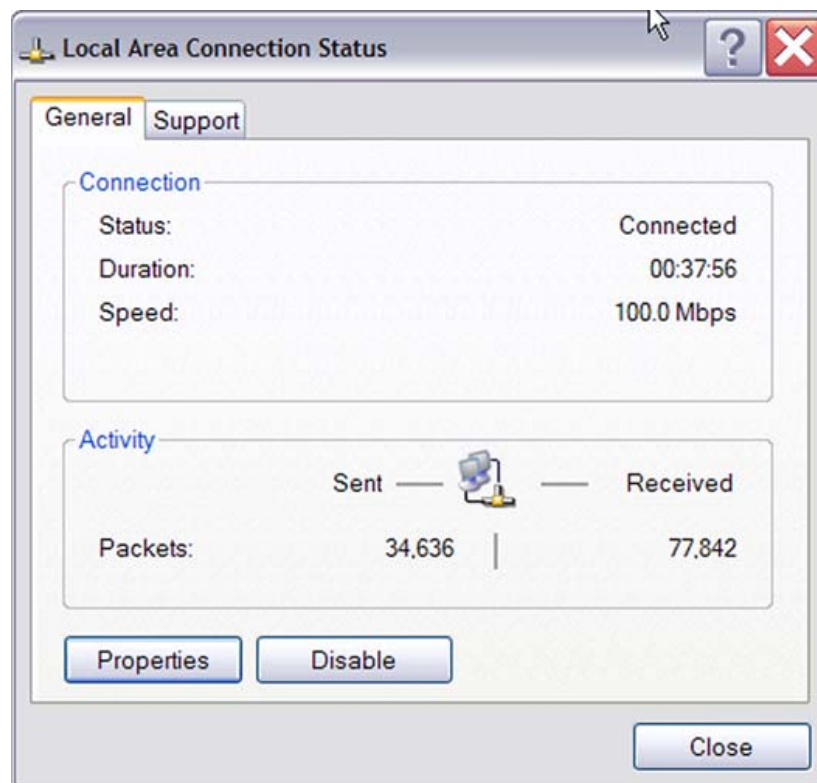

Figure 7. The Local Area Connection Status Dialog
2. In the panel labeled LAN or High-Speed Internet, double-click the Local Area Connection icon. The Local Area Connection Status dialog box appears (Figure 7).